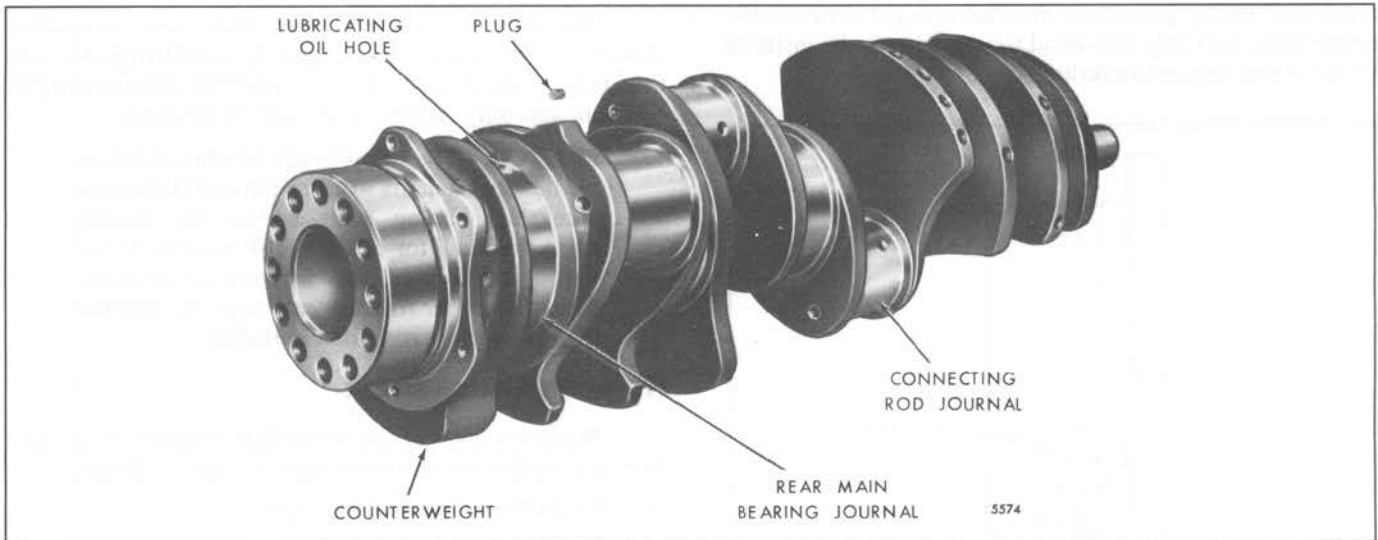

Fig. 1 - Typical 8V-92 Crankshaft
2. Press the stem side of the new "T" shaped gasket down into the groove at the four corners of the cover first. Then, press the remainder of the gasket into place in the groove (Fig. 1). Be sure the stem of the entire gasket bottoms in the groove.
The crankshaft is a one-piece steel forging, heat-treated to ensure strength and durability (Fig. 1). A two-piece crankshaft assembly is used on the 12V-92 and 16V-92 engines. The two halves are bolted together at the center flange (Fig. 9). The main and connecting rod bearing journal surfaces and fillets on all crankshafts are induction hardened.